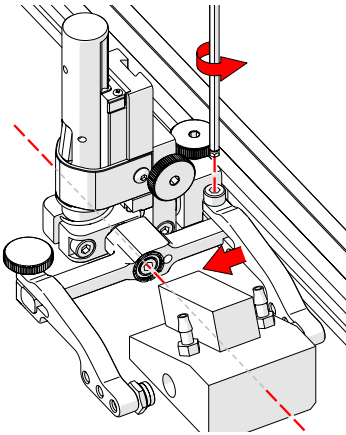

Fig. 80 - Adjust inner arm
4. Position the wedge on the inner probe holder arm (Fig. 80).
**TIP:** The probe holder yoke can accommodate many different probe and wedge sizes of varying widths. It is best to centre the wedge with the yoke's pivot axis. This can reduce wedge 'rocking' when scanning. Position the inner probe holder arm accordingly (Fig. 80) using the supplied 3 mm hex driver (Fig. 40).